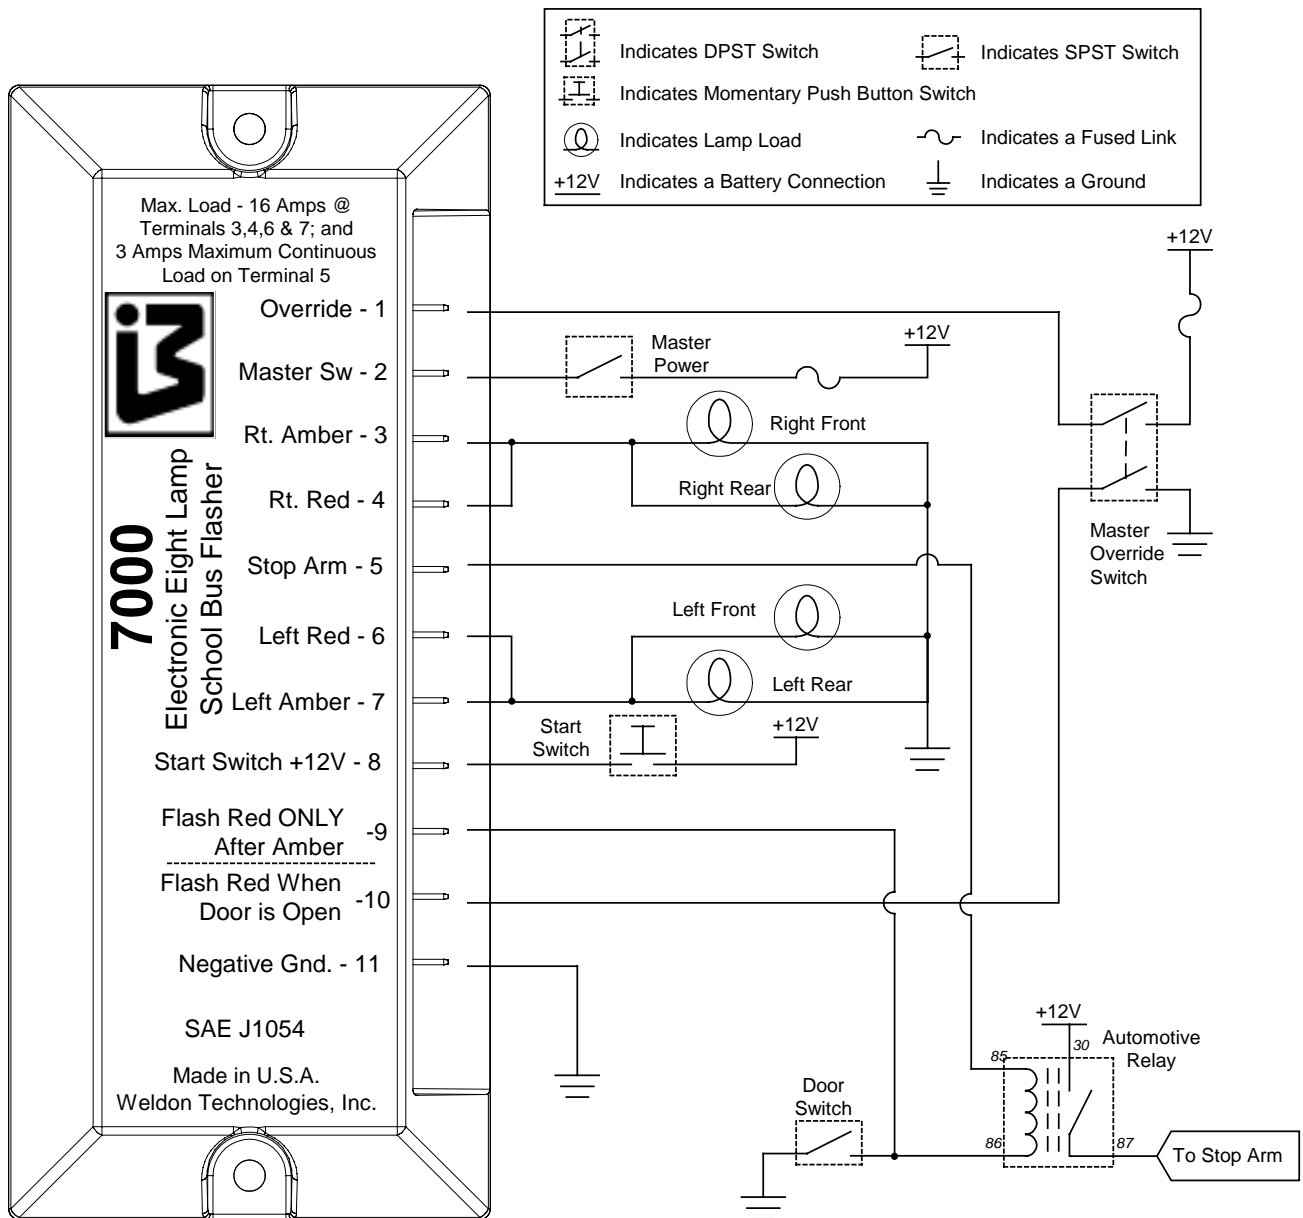

Figure 3 – Four-Lamp Sequential Flasher Wiring Diagram with Master Override Switch
3. If using this flasher on a 4-way warning lamp system, the unit can be operated in sequential mode by controlling the stop arm through a relay - as shown in Figure 3.
A typical 4-lamp warning system installation is shown in Figure 3 below. With this setup, the flasher will alternately flash the red lamps after the Start switch is depressed. When a “door open” condition is detected the stop arm will be activated and the reds will continue to flash. When the door is “closed” the reds will finish cycling and the stop arm will return to the side of the vehicle.